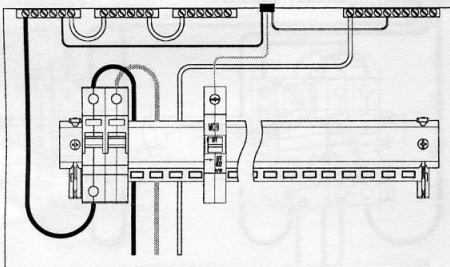

Fig.7.2 Connections to MCBs
- Cut, dress and connect circuit conductors to appropriate MCB, RCBOs, neutral and earth terminals. (Figs 7.2 and 7.3)
- Ensure that each earth and neutral outgoing circuit is correctly made to its corresponding numbered terminal (Figs 7.2 and 7.3)